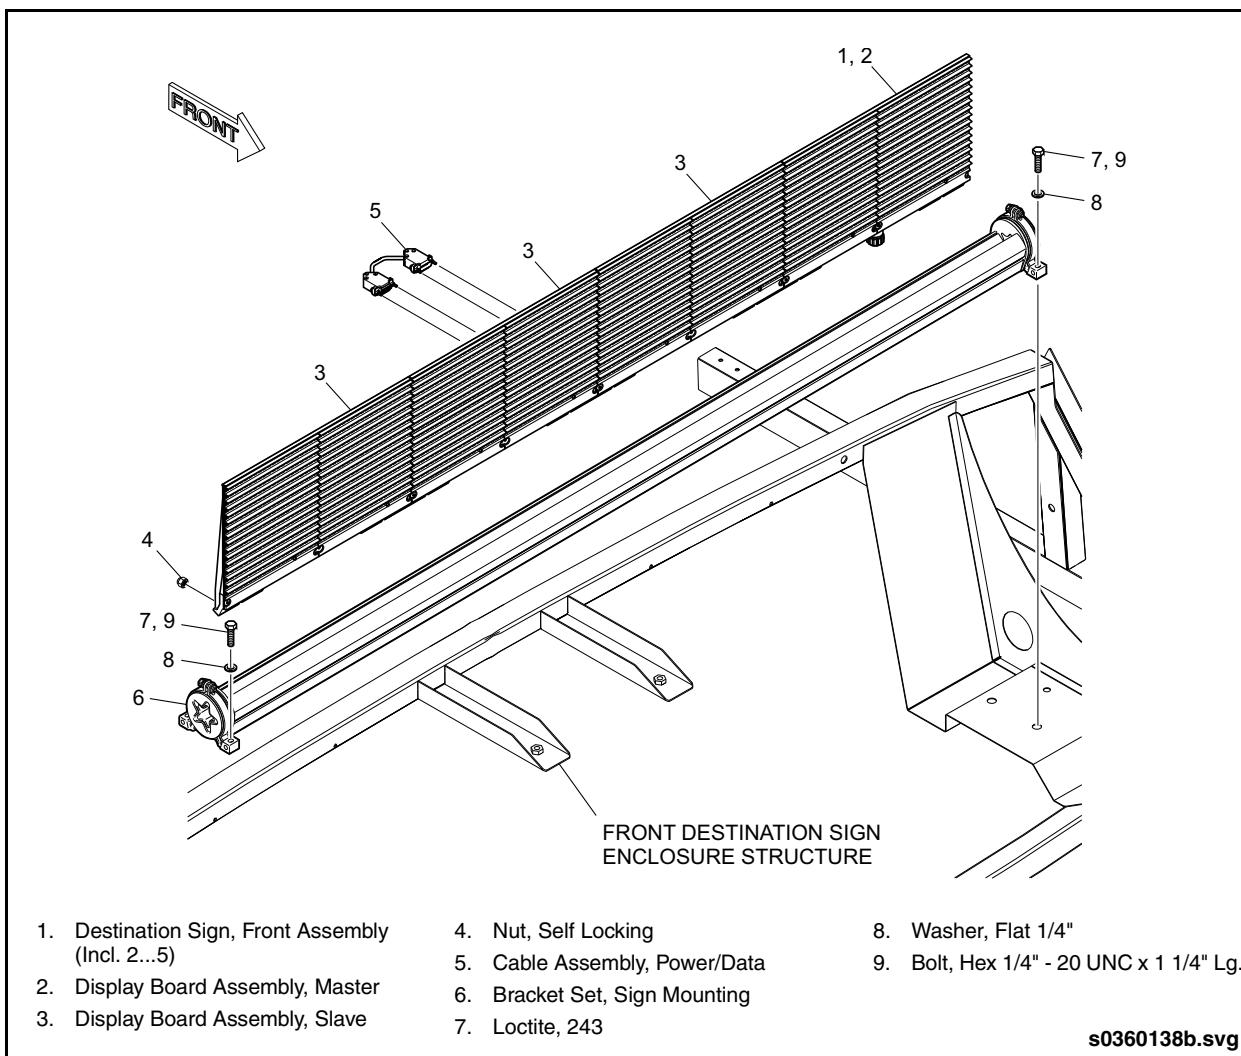

Fig. 18-2: Front Destination Sign Installation
4. Remove two bolts and washers from both ends of the mounting support bar. See "Fig. 18-2: Front Destination Sign Installation" on page 7.